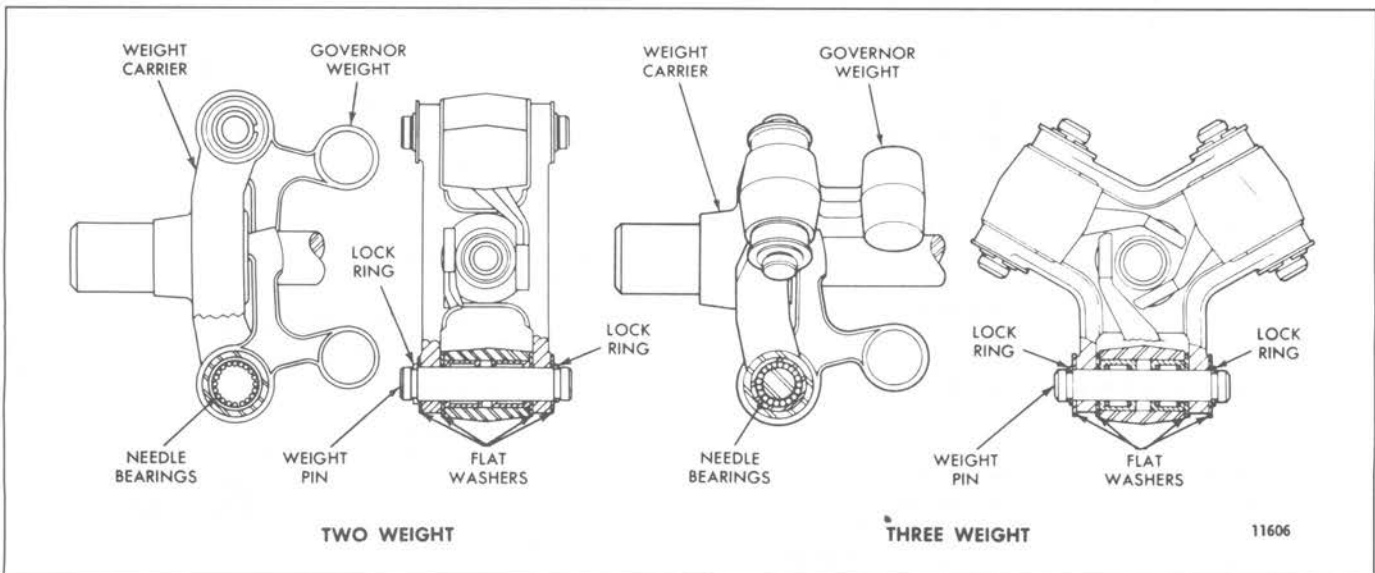

Fig. 10 – Cross Section of Governor Weight Assemblies (Turbocharged Engines)
Disassemble the governor weights and shaft assembly as follows (Fig. 10):
- b. Refer to Fig. 10 and remove the lock ring from the weight pin with a pair of snap ring pliers. Then remove the weight pin, flat washers and weight assembly from the weight carrier. Remove the second weight from the carrier in the same manner.